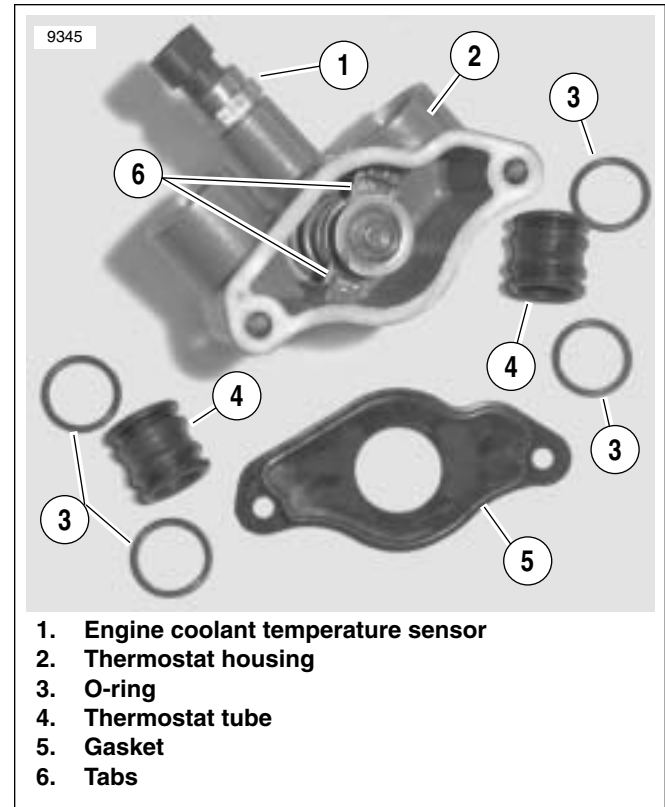

Figure 6-11. Thermostat and Housing
11. See Figure 6-11. Disconnect coolant temperature sensor (1) from wiring harness.
*See Figure 6-11. The sensor (1) for the engine coolant temperature is threaded into the engine side of the thermostat housing. When illuminated red, the engine coolant temperature indicator lamp on the instrument cluster indicates that the coolant temperature has exceeded 117° C (243° F).*
12. Pull thermostat tubes (4) and O-rings (3) out of engine.
2. See Figure 6-11. With **new** O-rings (3) on thermostat tubes (4), push tubes into engine case.
3. Connect engine coolant temperature sensor (1) to wiring harness.
5. Orient **new** thermostat housing gasket (5) to mating surface on engine case.
6. Push housing pipe into pipe hose and over thermostat tubes (4). Fit housing (2) to engine case.